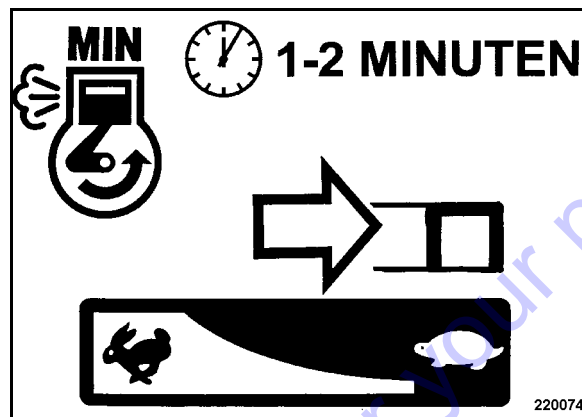

Fig. 24
- Move the throttle lever (Fig. 24) back to idle speed position.